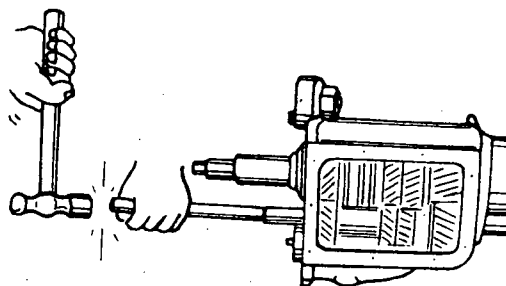

Fig. 2
- c) Remove the bolt of the counter shaft. Then remove the shaft by tapping its front part with a bronze or aluminium drift punch (fig. 2).